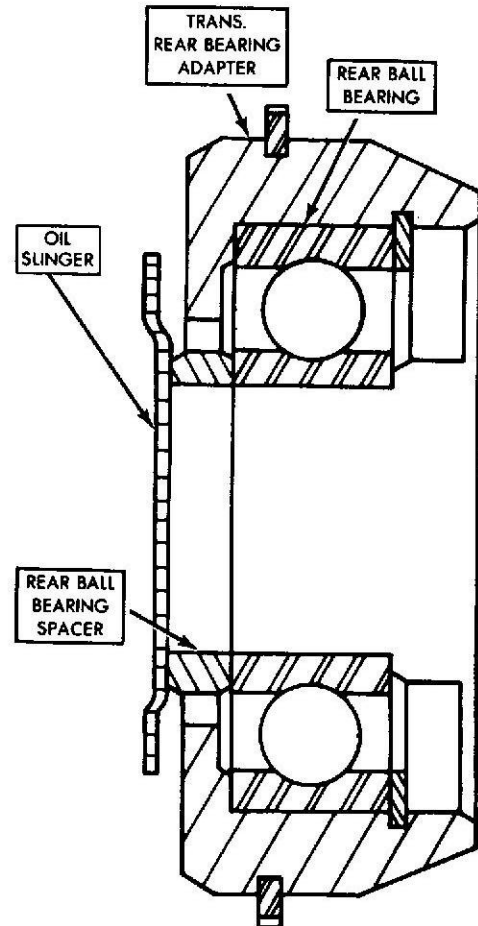

Fig. 2 Tremac 3-Speed Manual Transmission Rear Bearing Adapter, Rear Ball Bearing, and Oil Slinger
- The rear oil slinger has been relocated to a position in front of the rear ball bearing (Fig. 2).